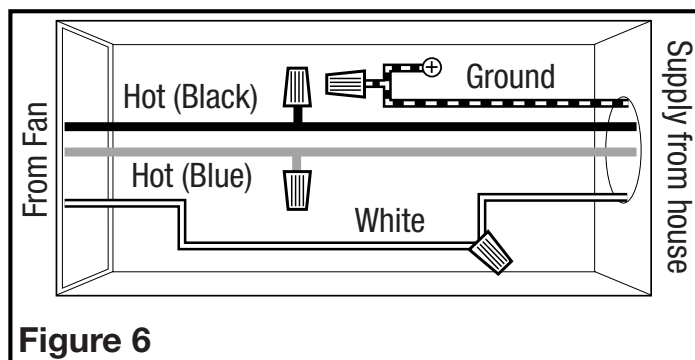

Figure 6
- From where you have access to inside the fan's junction box, connect the white wire from the house to the white wire from the fan. Connect one hot (black) wire from the house to the black wire from the fan (this is the fan control). Connect the second hot (blue) wire from the house to the blue wire from the fan (this is the heat bulb control). Connect the ground wire from the house to the green wire from the fan (Figure 6). Use approved methods for all connections.